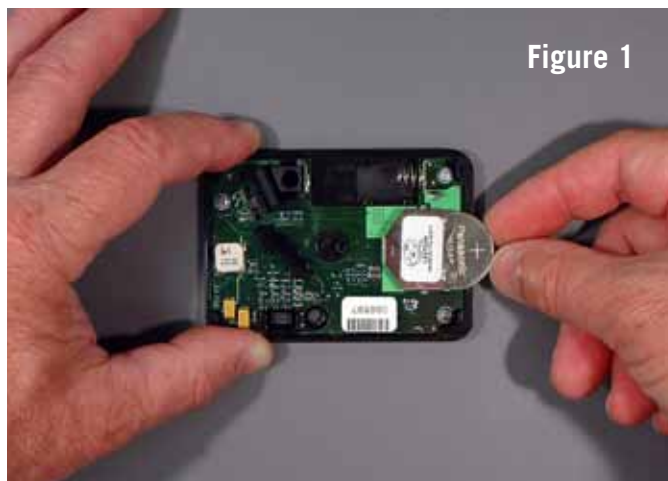
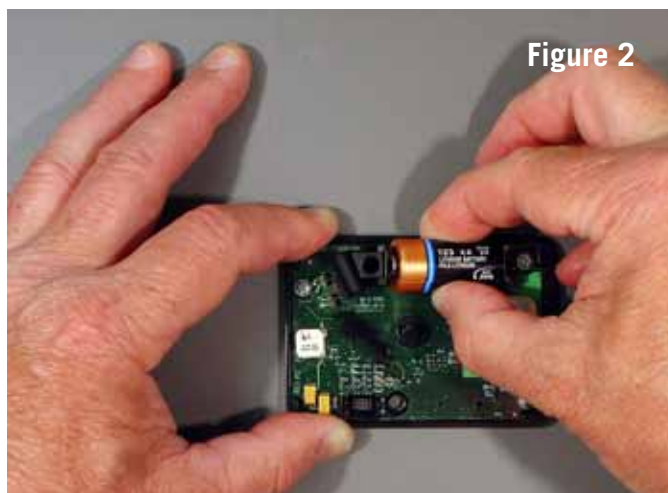

Figure 1
Figure 2
Step 4—Slide a new coin cell battery into its housing first, positive side up (figure 1). Then install the camera-type battery into its receptacle (figure 2). Never force batteries into place. If batteries are installed backwards, no electrical damage will occur, but the lock will not work as designed, or at all. If you find that you have inadvertently installed the coin cell battery backwards (reverse polarity), discard the battery in favor of a new one. It is easy to temporarily short this type of battery by installing it incorrectly, significantly depleting its power.